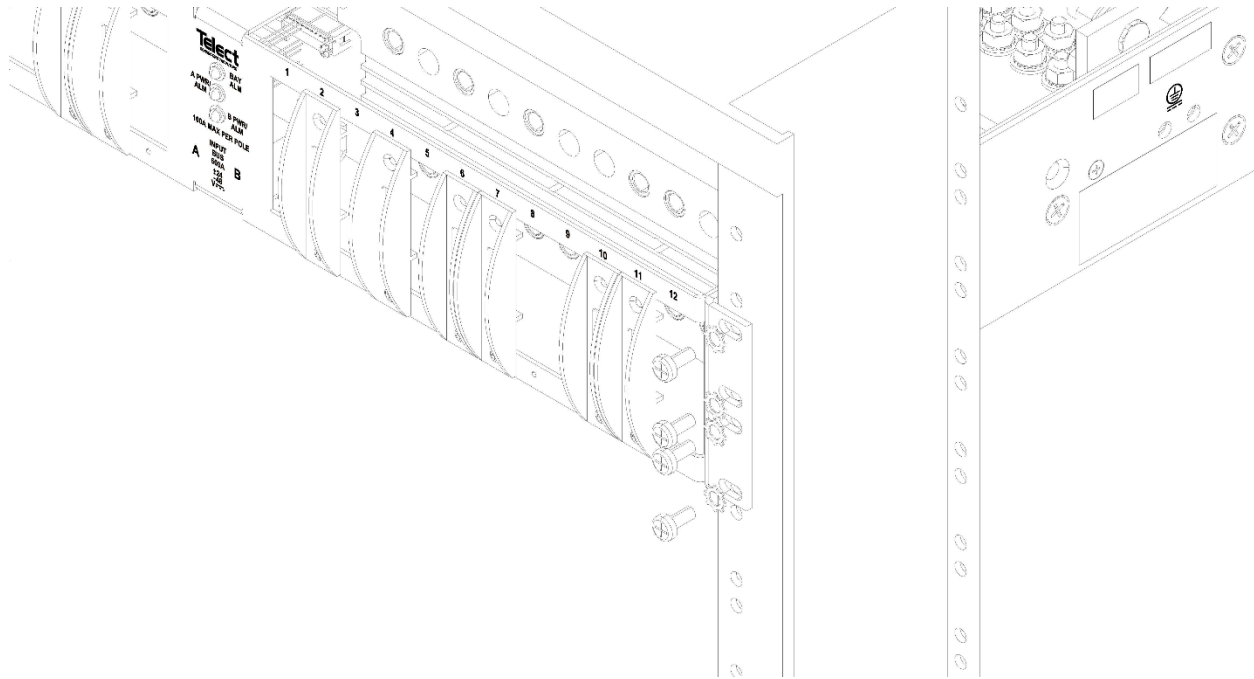

Fig. 6: Rack mounting
4. Locate an unused rack position and mount the load center using at least two sets of fasteners per side, as shown in Fig. 6.